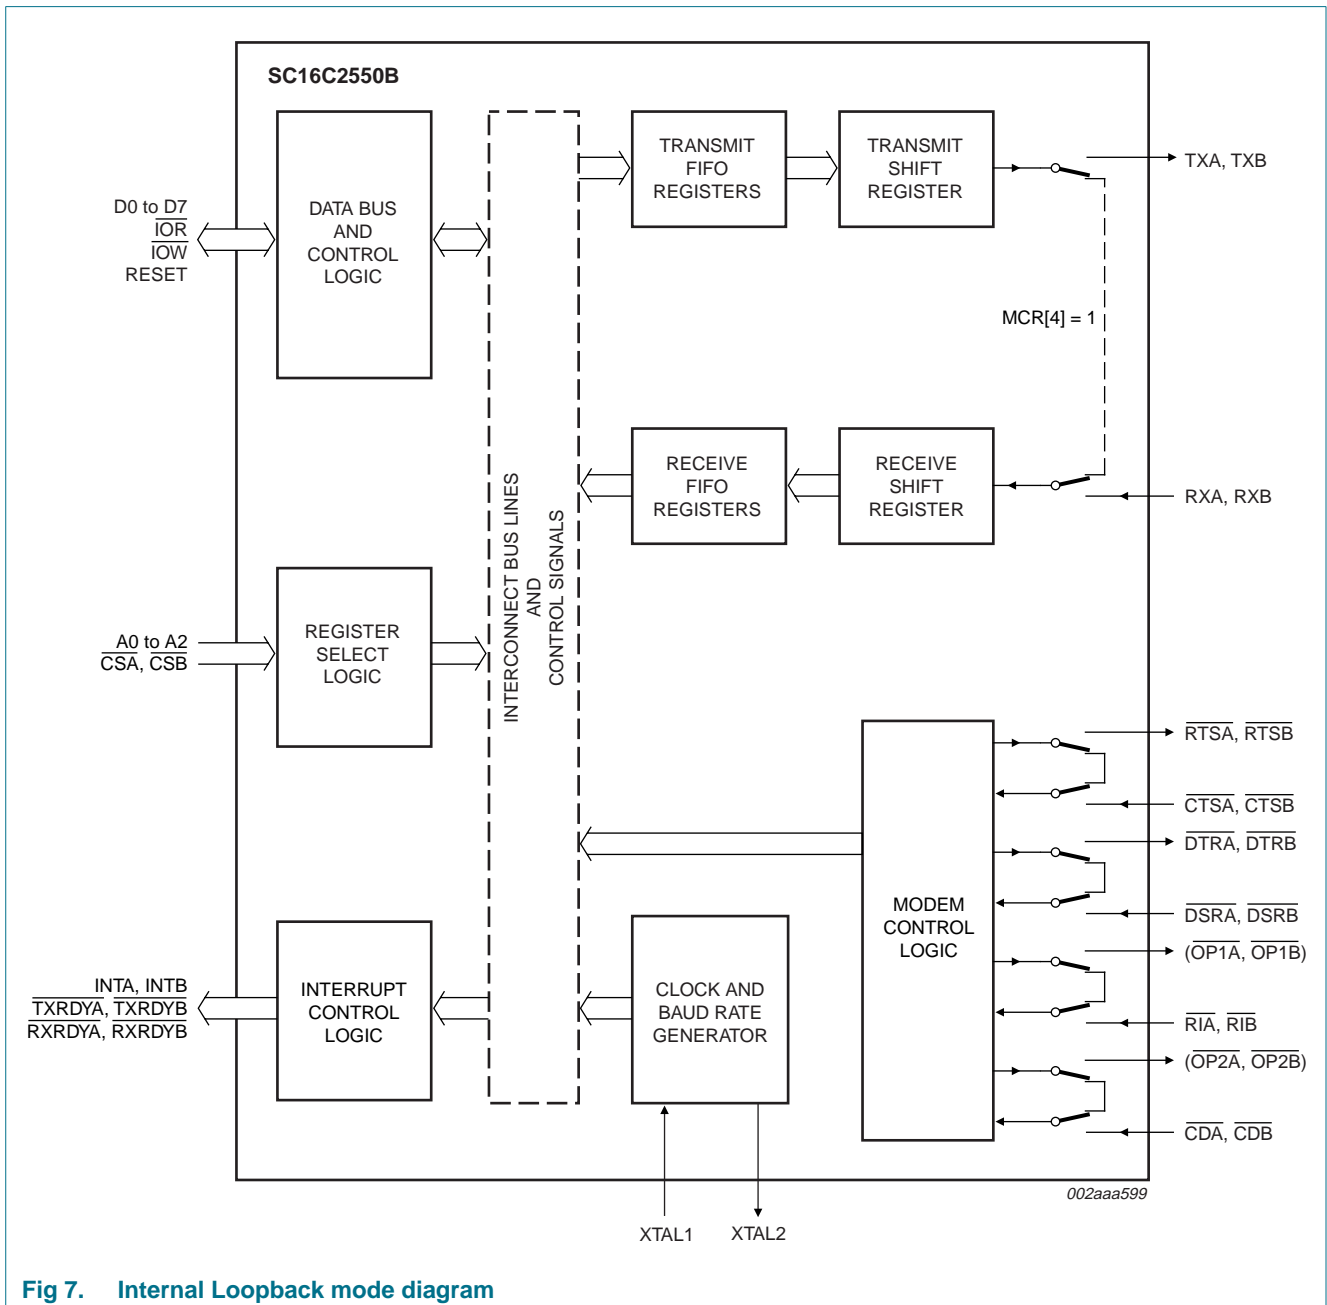

Fig 7. Internal Loopback mode diagram
The internal loopback capability allows on-board diagnostics. In the Loopback mode, the normal modem interface pins are disconnected and reconfigured for loopback internally (see Figure 7). MCR[3:0] register bits are used for controlling loopback diagnostic testing. In the Loopback mode, the transmitter output (TX) and the receiver input (RX) are disconnected from their associated interface pins and instead are connected together internally. The  $\overline{\text{CTS}}$ ,  $\overline{\text{DSR}}$ ,  $\overline{\text{CD}}$  and  $\overline{\text{RI}}$  are disconnected from their normal modem control input pins and instead are connected internally to  $\overline{\text{RTS}}$ ,  $\overline{\text{DTR}}$ , MCR[3] ( $\overline{\text{OP2}}$ ) and MCR[2] ( $\overline{\text{OP1}}$ ). Loopback test data is entered into the transmit holding register via the user data bus interface, D0 through D7. The transmit UART serializes the data and passes the serial data to the receive UART via the internal loopback connection. The receive UART